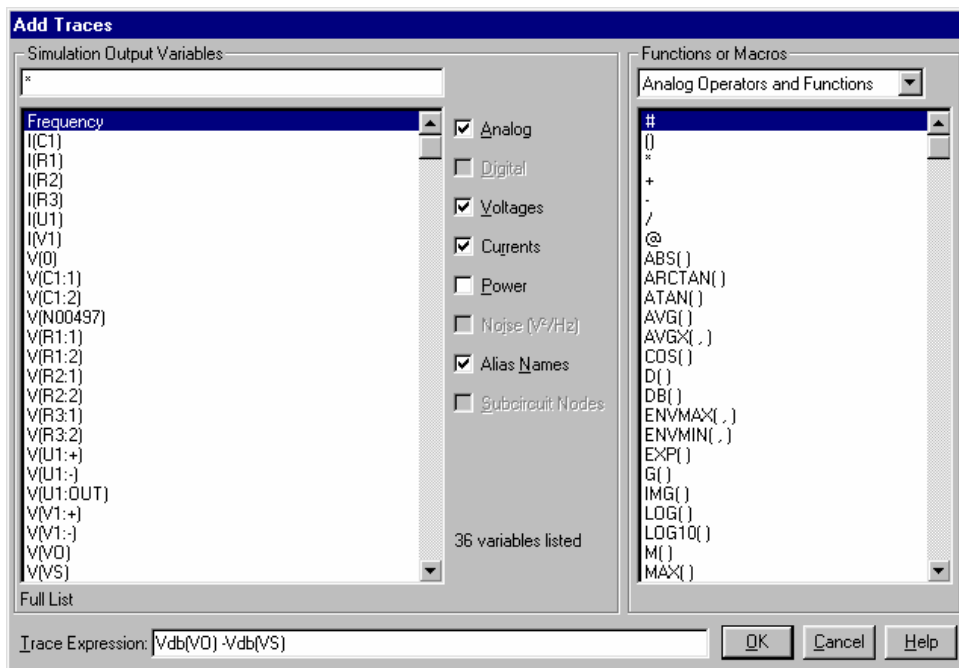

Figure 5 The Add Traces dialog box.
Select **Trace / Add Trace** from the Schematics menus to pop up the “Add Traces” dialog box shown in Figure 5. Select first V(VO) and then V(VS) from the list of "Simulation Output Variables". The “Trace Expression”, near the bottom of the dialog box, will be “V(VO)V(VS)”. Edit the trace expression to be “Vdb(VO)-Vdb(VS)”. Because
Probe provides tools to label some points on the Bode plots. Select the top plot, the gain Bode plot, by left-clicking on it. Select **Trace / Cursor / Display** from the Schematic menus to activate the cursors. (This is a toggle, so selecting **Trace / Cursor / Display** will also deactivate an active cursor.) The cursor is positioned using the arrow keys or by left-clicking on a trace using the mouse. Move the cursor to a low frequency (for example, 1.1415 Hertz is used in Figure 5) to measure the low frequency gain of the circuit. When the cursor is positioned as desired, select **Plot / Label / Mark** from the Schematics menus to mark the point. Deactivate the cursor by selecting **Trace / Cursor / Display** from the Schematics menus. Then position the label as desired using the mouse. The point on the gain Bode plot is labeled as